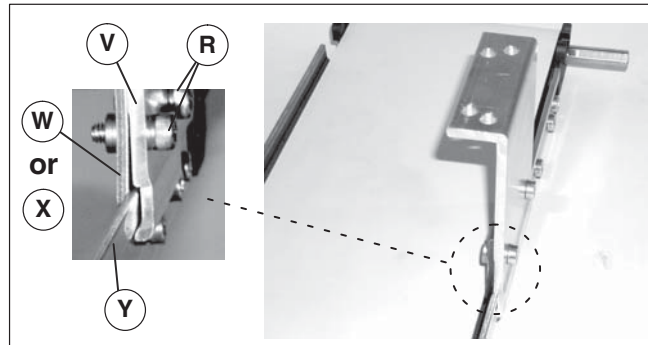

Figure 9
- Attach stand mounting bracket (Figure 9, item V) to bottom of conveyor (Y). Snug-up screws (R).